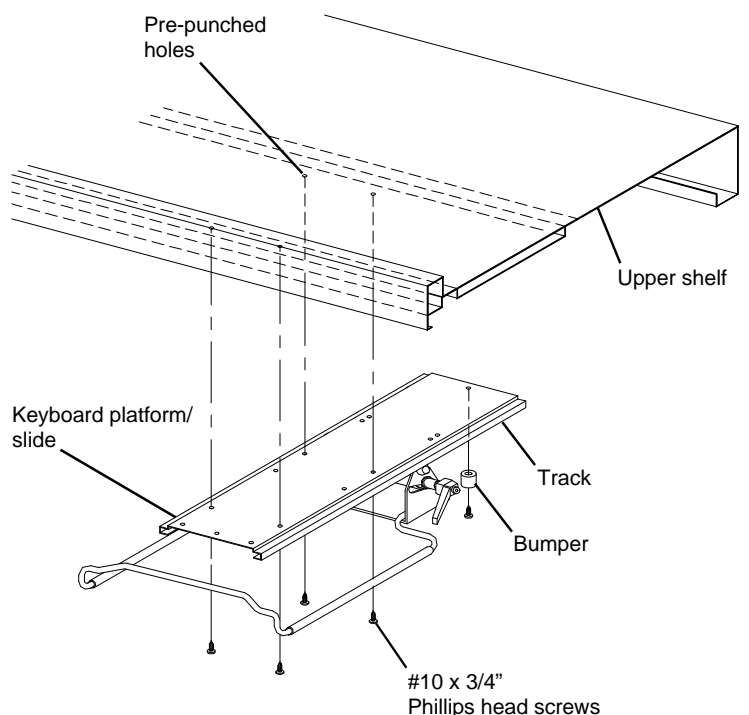

Figure 2
2. Position and align the Track assembly mounting holes marked "X" with holes in the Upper Shelf. See **Figure 2**. (To identify the front of the Track, see previous NOTE)